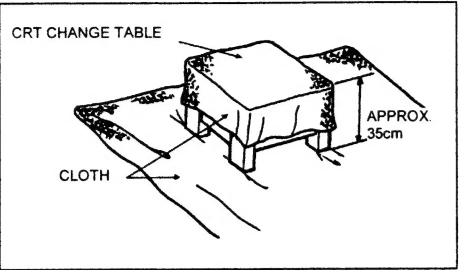

Fig. 4
- 1. Putting the CRT change table on soft cloth, the CRT change table should also be covered with such soft cloth (shown in Fig.4).
- 2. While keeping the surface of CRT down, mount the TV set on the CRT change table balanced will as shown in Fig.4.